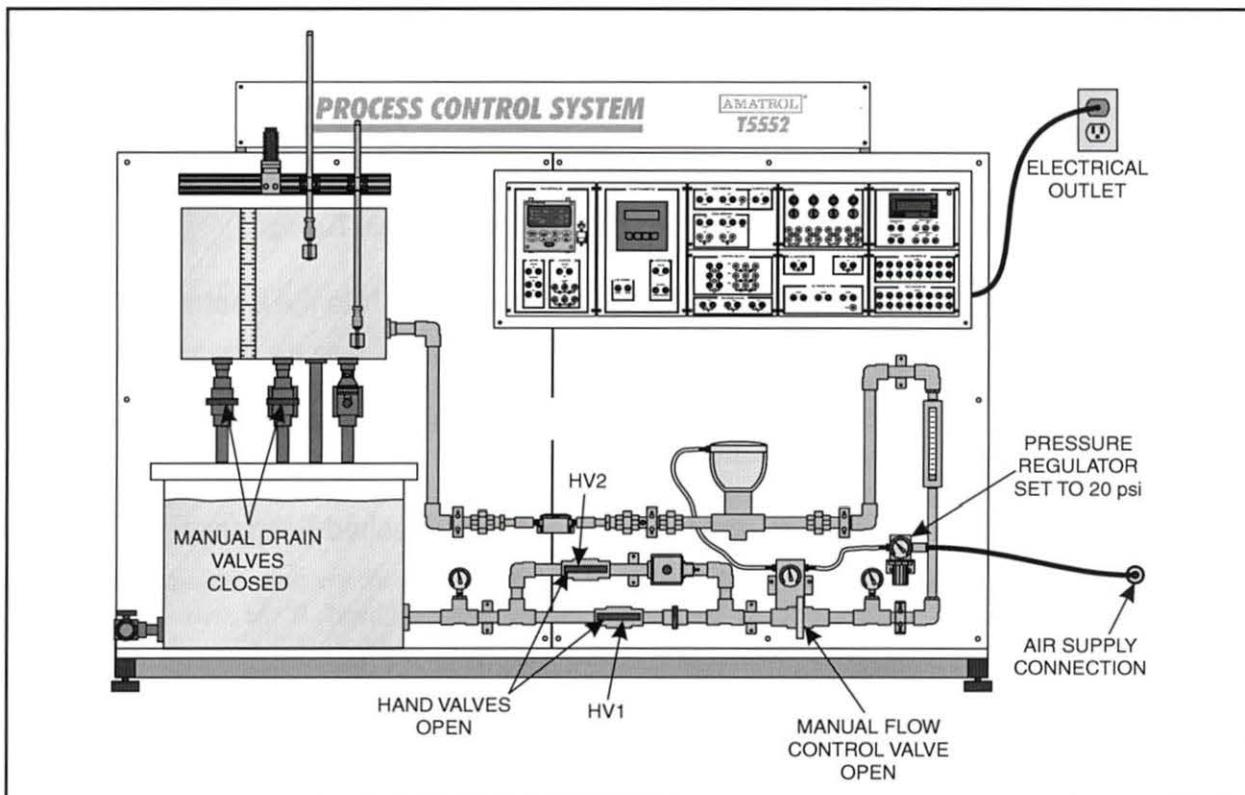

Figure 51. T5552 Setup
- 2. Perform the following substeps to set up the T5552, as shown in figure 51.